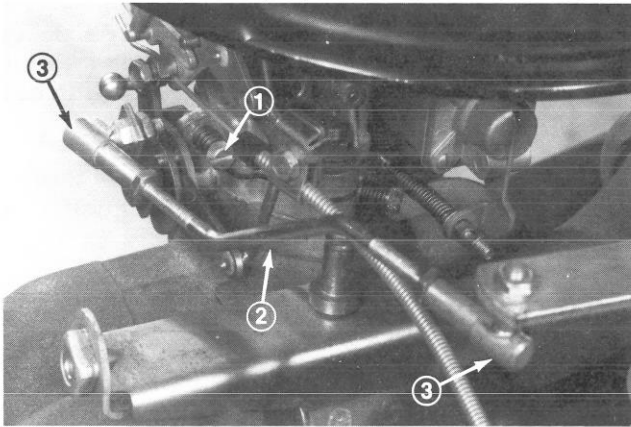
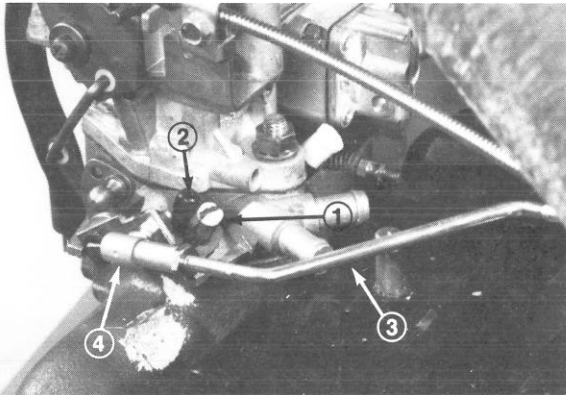
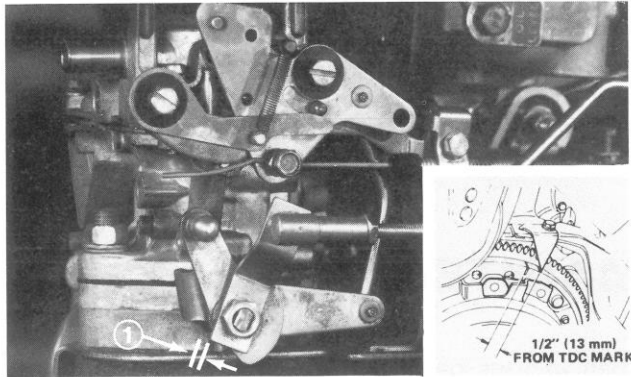
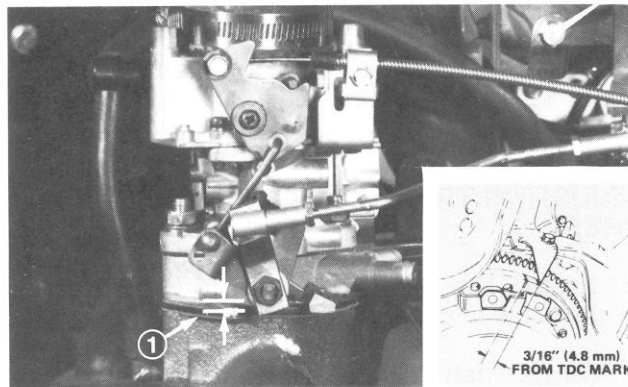

Figure 38
Figure 39
Figure 41
Figure 42
Two different style carburetors are used on the Groundsmaster 327; one with a single idle speed screw (Fig. 38) and one with an idle speed screw plus a choke idle speed screw (Fig. 39). Adjustment procedures for proper idle speed are identical.
Engine equipped with carburetors with a choke idle speed screw (Fig. 39) should be adjusted to operate at 2000 rpm when the engine is "cold started".
There are two timing marks on the flywheel. The saw-cut mark is TDC — top dead center — and the chisel mark, depending upon the carburetor used (Fig. 41, 42) is either 7° BTDC — before top dead center (Fig. 41) or 2° BTDC (Fig. 42). Time the engine to either 2° BTDC or 7° BTDC at 700 to 800 rpm. After timing, set idle speed back at 1450 to 1550 rpm. Idle speed must be 1450 - 1550 rpm to prevent damage to the transmission.
1. Move throttle control to FAST position and open hood. Check between the throttle arm and the stop on carburetor base to make sure there is 1/32 inch (0.794 mm) gap (Fig. 41 or 42). If gap is not correct, adjust throttle rod (Fig. 38 or 39) by turning ball joint ends until gap is 1/32 inch (0.794 mm). If gap is correct, proceed to step 2.
2. Start engine and move throttle to SLOW position. Allow engine to warm up to normal operating temperature and rotate idle screw (Fig. 38 or 39) to set idle at 1450 to 1500 rpm.